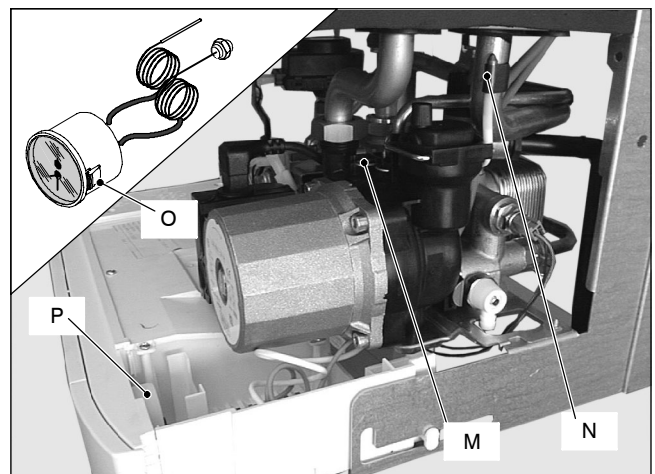

Fig. 8
- 2 Remove the fork M and the probe holder spring N (Fig. 8).